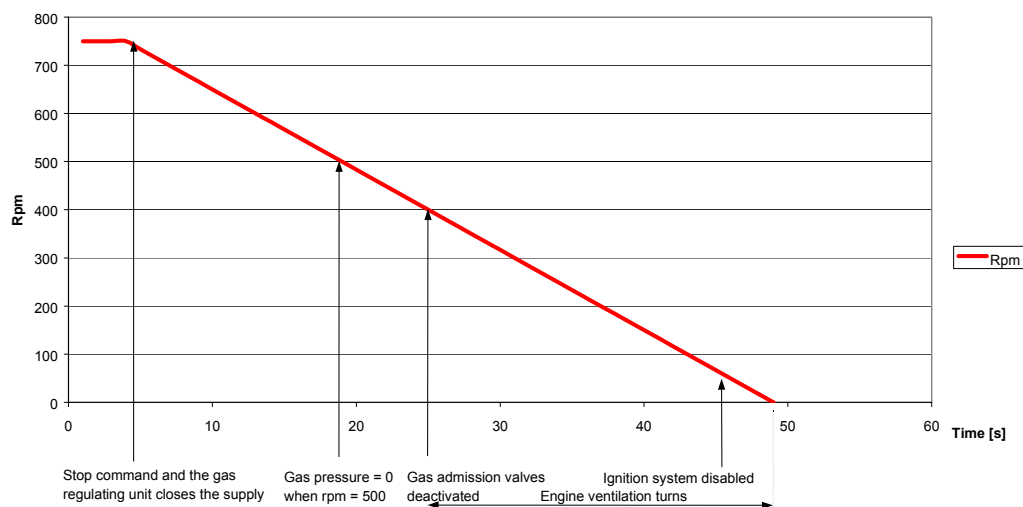

Figure 2. Stop sequence (SG).
Stop sequence (SG) is graphically presented in Figure 2.